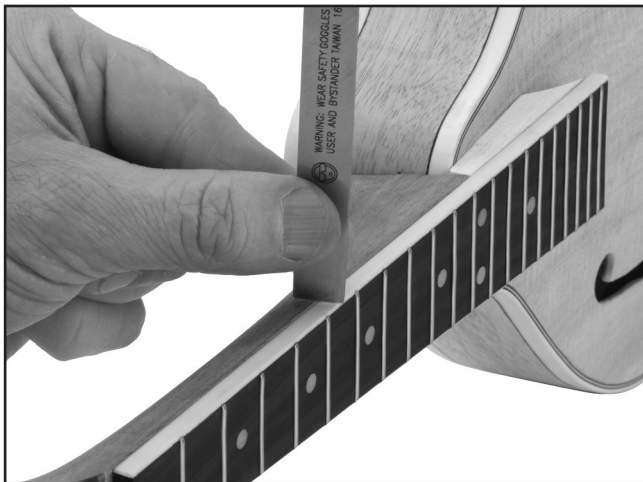

Figure 31. Example of removing glue residue.
2. Carefully scrape away any glue residue with a sharp chisel held perpendicular to the surface as shown in **Figure 31**.